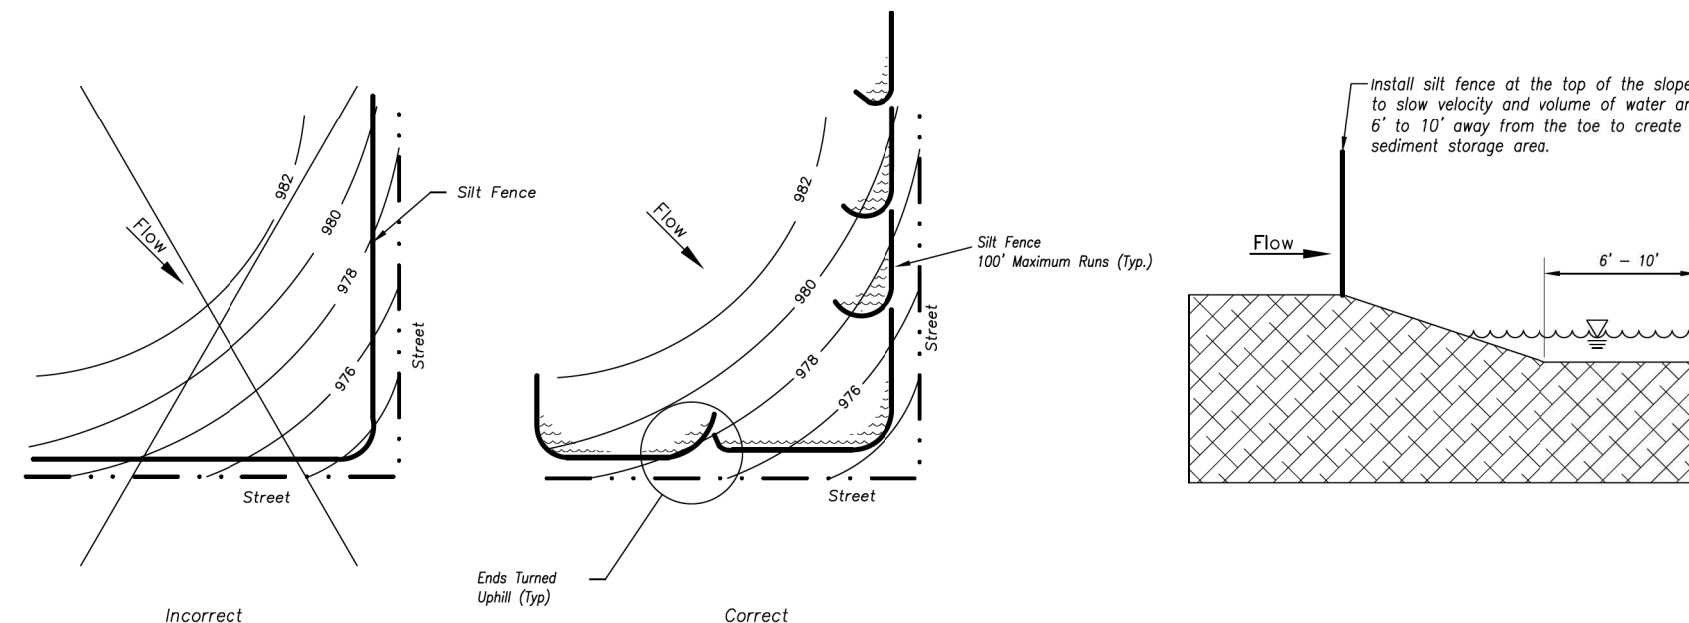

Figure 4
1. In order to contain water, the ends of the silt fence must be turned uphill (Figure 4).
2. Long perimeter runs of silt fence must be limited to 100'. Runs should be broken up into several smaller segments to minimize water concentrations (Figure 4).